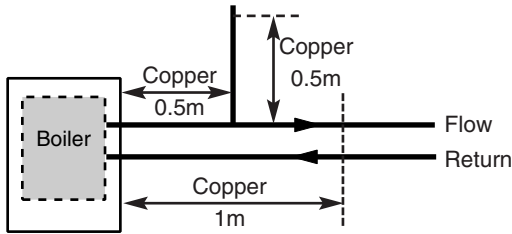

Fig. 5
3. In systems using non-metallic pipework it is necessary to use copper pipe for the boiler Flow and Return. The copper must extend at least 1 metre from the boiler and include any branches (Fig. 5). The copper pipe must not be insulated.